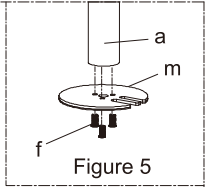

Figure 5
2. Install the Grommet Base Plate(m) to the Pole(a) using 3pcs M5x16 Bolts(f), and tighten using the Allen Key(o), see Figure 5.